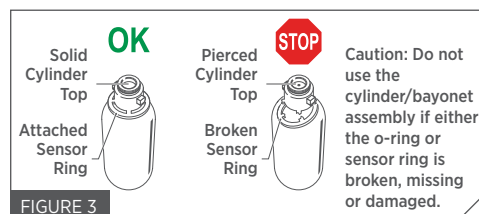

FIGURE 3
9. Check the new cylinder/bayonet assembly to ensure the o-ring is in place and the sensor ring is attached (fig. 1). Ensure that the CO₂ cylinder has not been pierced (fig. 3).